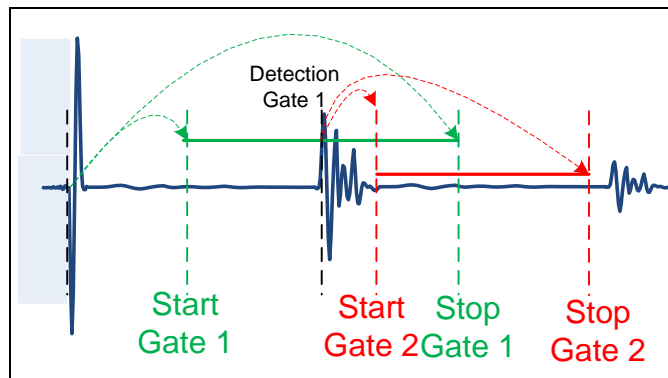

figure.14 Gate Tracking example
- Note ⁴: The Gate-tracking feature allows you to synchronize the Start and Stop of one gate with the TOF result of another. Without this feature, the reference (0) of the Start and Stop parameters is considered to be the Cycle Trigger (same reference as for the pulses and Emission/Reception delays), but with Gate tracking, the reference becomes the TOF result of another gate from the previous cycle. See figure 14 for an example of this feature. The Start and Stop of Gate 2 are referenced to the TOF result of Gate 1 (of the previous cycle).